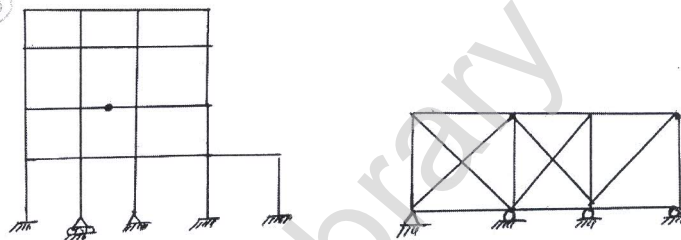

Fig.Q1(b)
- b. Determine static and kinematic indeterminacies of structures shown in Fig.Q1(b). (10 Marks)